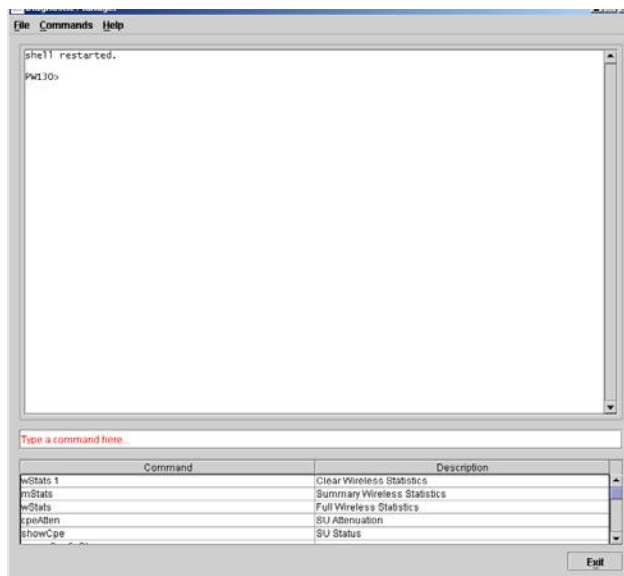

Figure C-2 Diagnostic Manager
4. The Diagnostic Manager will open as shown in Figure C-2. The Diagnostic Manager includes numerous diagnostic functions which can be initiated from the main menu bar or from the command list area at the bottom of the window.